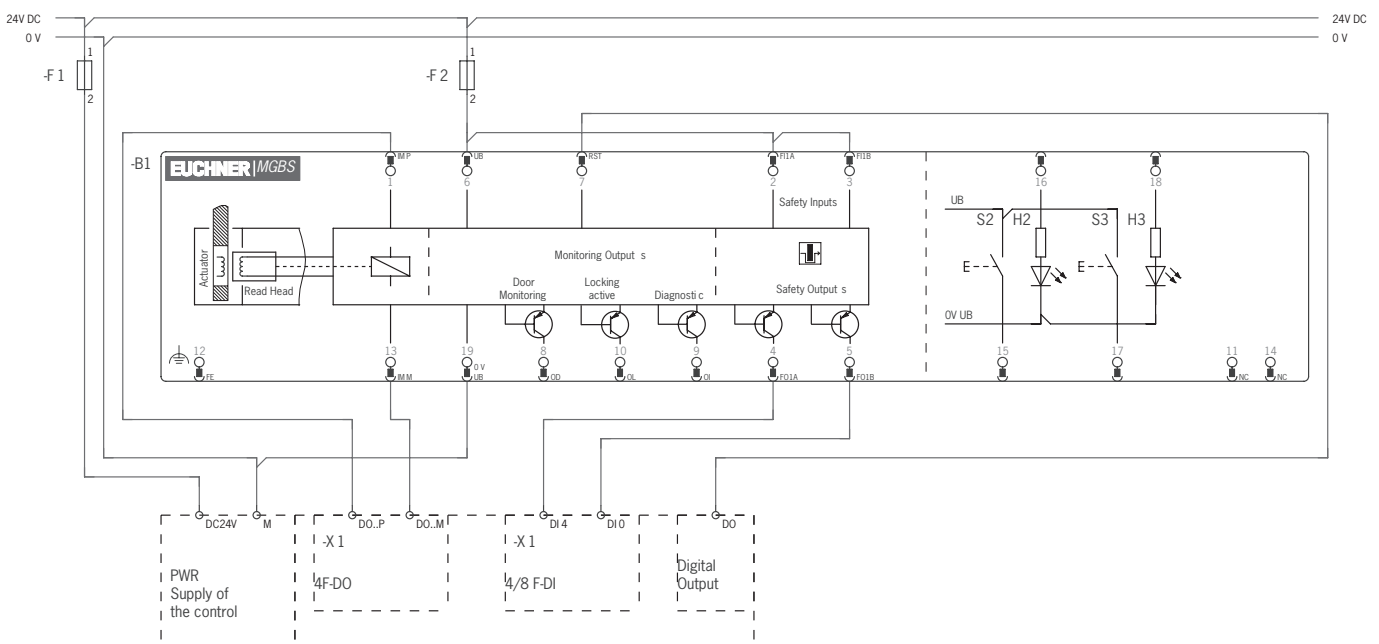

Fig. 7: Connection example for the connection to ET200
- ▶ For dual-channel control of the solenoid voltage by safe outputs of a control system, the following points must be observed (see also Fig. 7 on page 31):